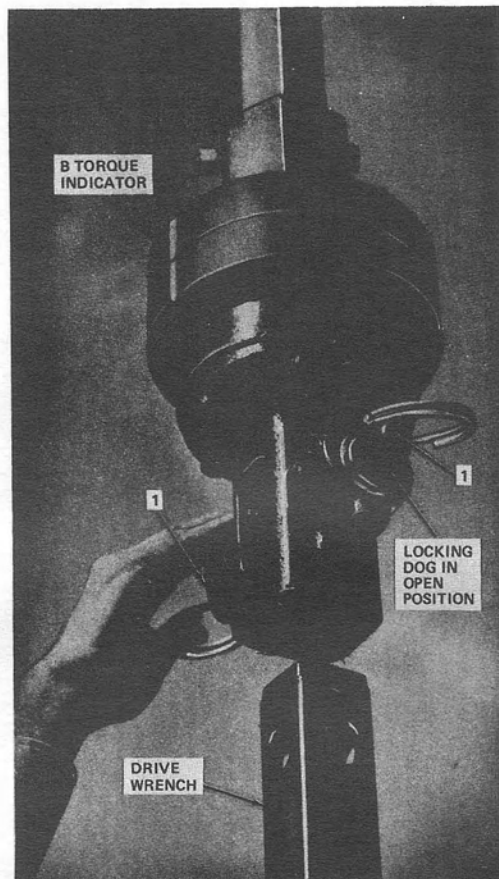

Fig. 8—Drive Wrench Attachment
4.04 Install the drive wrench attachment as indicated in Fig. 8.